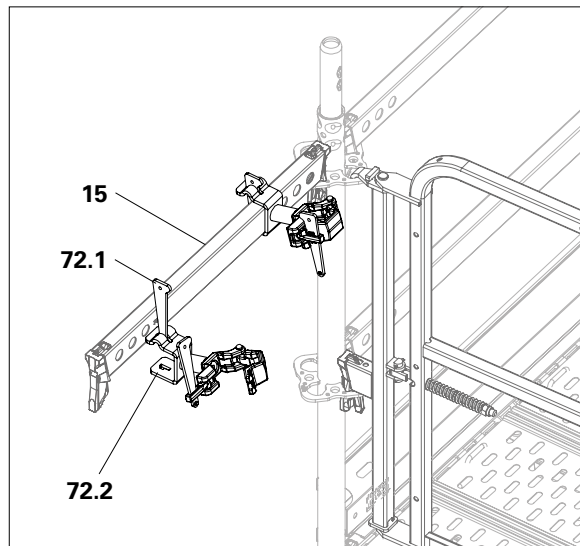

Fig. A9.02a
1. Pull the wedge (72.1) out of the clamping part (72.2) and push the clamping part over the ledger (15).
2. Insert the wedge into the clamping part and hammer it tight. (Fig. A9.02a)